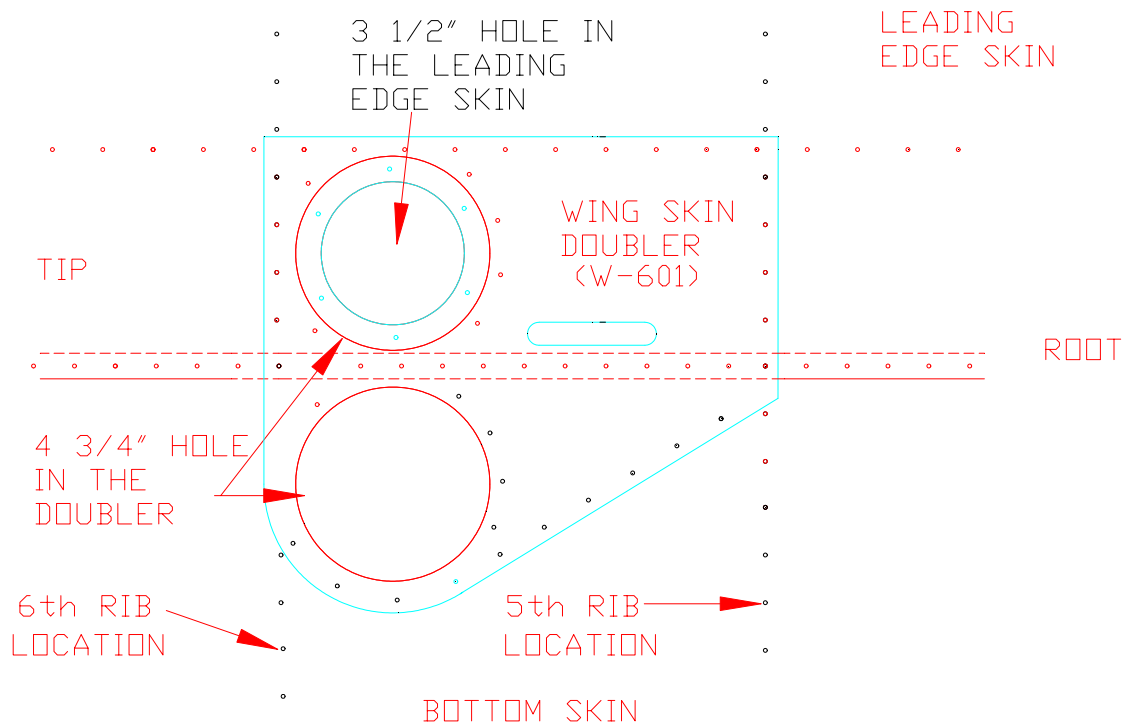

Figure 8.19.1
- 1) Remove the clecos in the area where the Wing Skin Doubler (W-601) will go. Figure 8.19.1.
- 2) Cleco the Wing Skin Doubler in place. Figure 8.19.1.
**NOTE:** You will need to locate and cut out the 3 1/2” hole in the Bottom Skin and drill the six holes for your Cover Plate before you mount the Skin to the Wing. Figure 8.19.1.